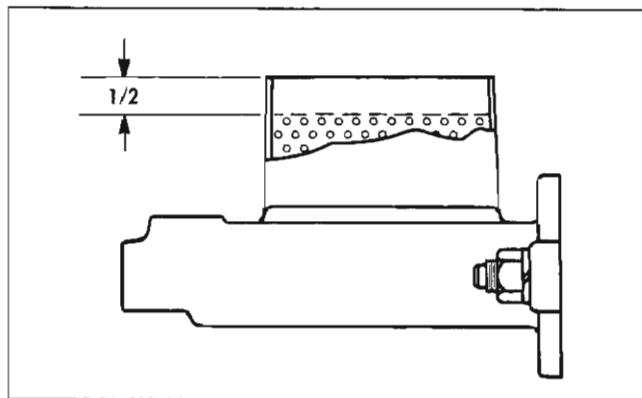

Fig. 5-14 Correct Fluid Level in Master Cylinder
20. Check fluid level in master cylinder. Fluid level should be  $\frac{1}{2}$ " below the reservoir opening (Fig. 5-14).